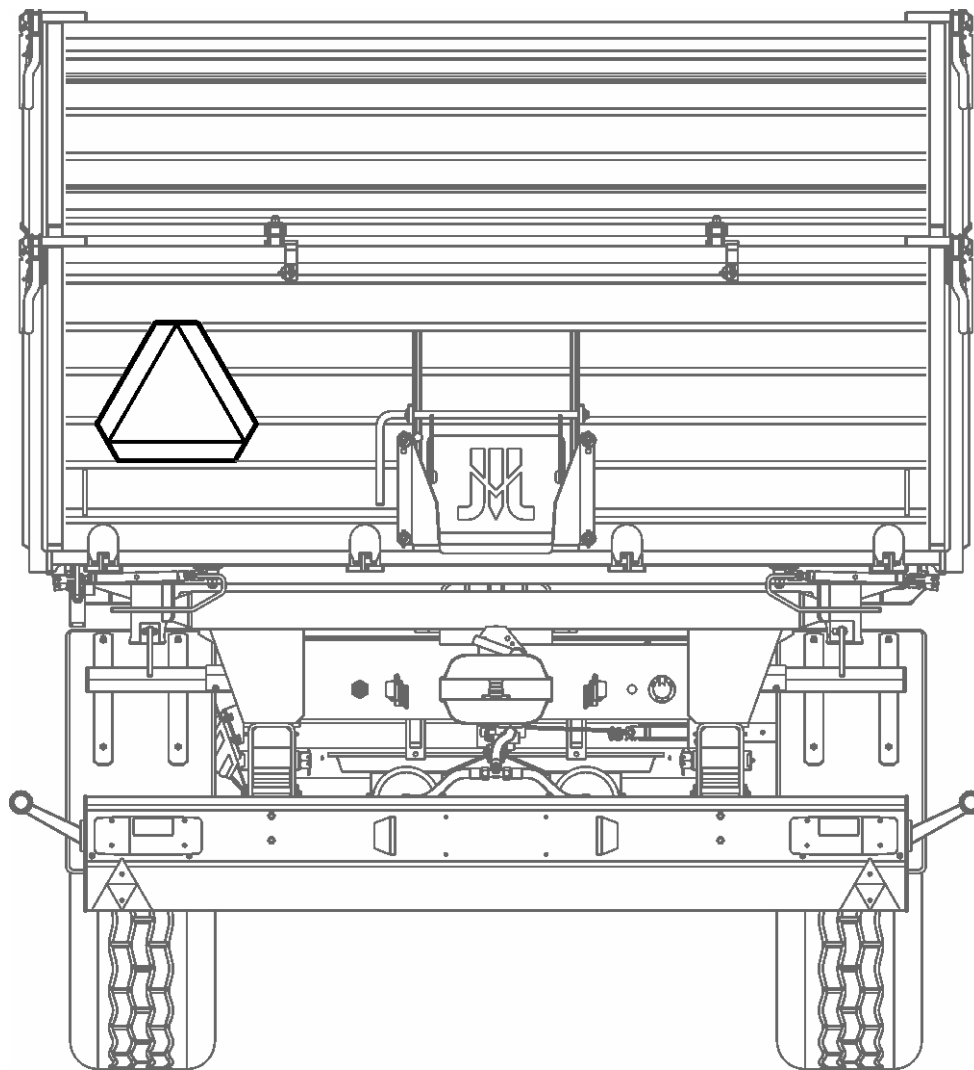

Fig. 1 Location of a triangular plate for slowly moving vehicles.
- Rear wall should be equipped with a triangular plate for slowly moving vehicles (if the trailer is the last vehicle in a set (Fig. 1)).